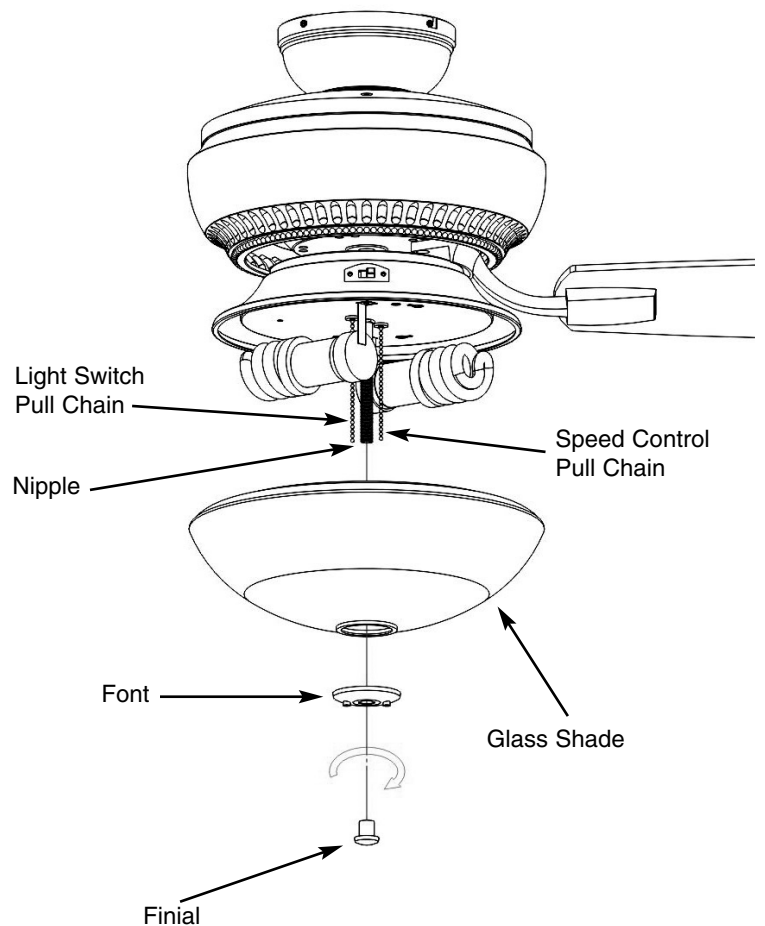

Fig. 15
Step 11 Installing Glass Shade (*see figure 15*).
The pull chain located on the switch housing (*see figure 15*) controls the speed of your fan. When the fan is OFF, pull the chain once for HIGH speed, twice for MEDIUM speed, three times for LOW speed and fourth time to turn it off again.